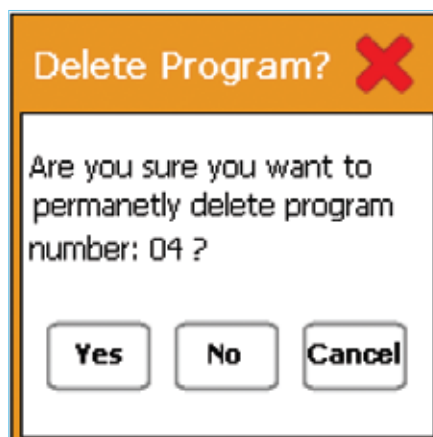

Figure 4-8: Confirmation message.
- A pop-up window will appear to confirm program deletion. (Figure 4-8)